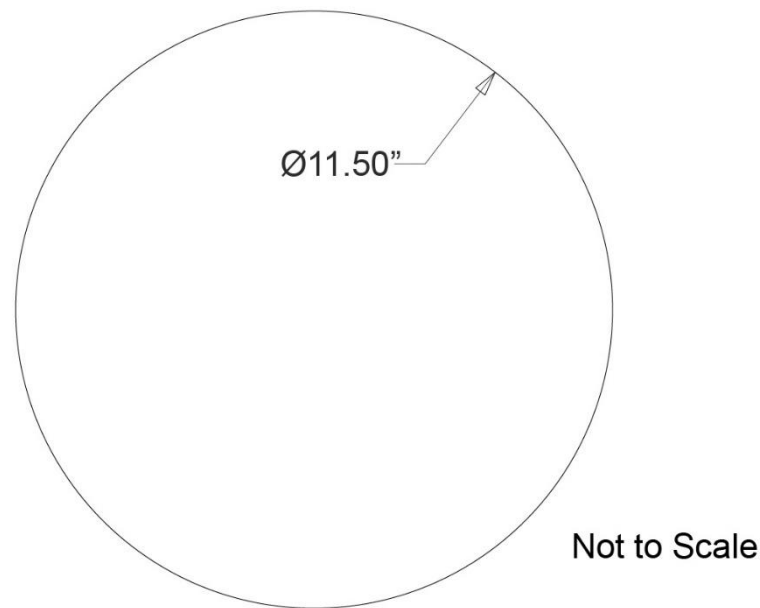

Figure 1
2. Mark the center of the desired location and scribe to the dimension shown in Figure 1.
2. If not already done, cut a hole in the ceiling. Refer to Drop Ceiling Access Hole section and Figure 1. Mark the outer profile and cut the hole in the tile.